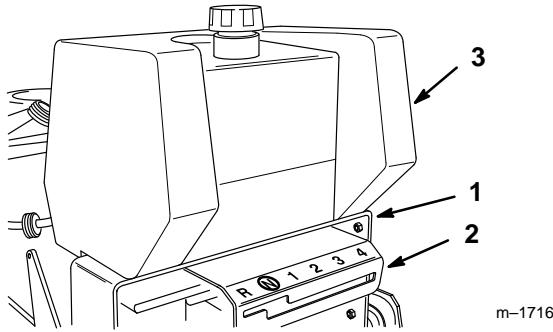

Figure 2
- Slide control panel over shift lever and under bottom of rear frame (Fig. 2). Align fuel tank to top of rear frame (Fig. 2).